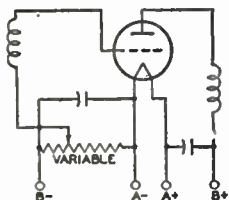

Fig. 83
Grid-bias variation for the rf and if amplifier stages is a convenient and frequently used method for controlling receiver volume. The variable voltage supplied to the grid may be obtained: (1) from a variable cathode resistor as shown in Figs. 83 and 84; (2) from a